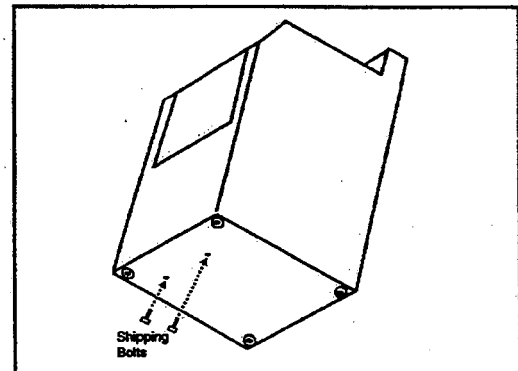

Figure 1-4
3. Locate the two (2) ½" hex-head shipping bolts extending up through the bottom of the base (**Figure 1-4**). The shipping bolts are near the center of the base toward the front of the washer. Remove both bolts, freeing the tub and suspension. Do not be alarmed should the tub assembly shift when the last bolt is removed. Some shifting of the tub is normal.